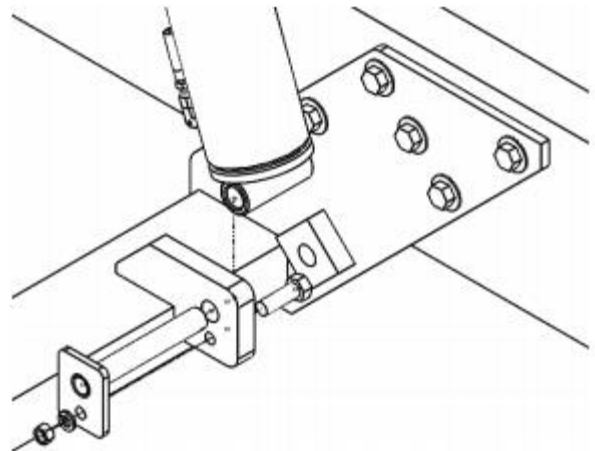

Figure 11
1. Align the lower Hydraulic Cylinder mounting hole with the corresponding holes on the Lower Cylinder Mount as shown in Figure 11.
2. Insert one (1) 1" Cylinder Pin into the cylinder hinge plate through the Hydraulic Cylinder lower mounting hole as shown in Figure 11.
3. From the inside of the hinge plate, insert one (1) 3/8" Hex Bolt through the hinge plate and the lower hole on the Cylinder Pin.
4. Attach one (1) 3/8" Lock Washer and one (1) 3/8" Hex Nut to the protruding end of the Hex Bolt and fasten with appropriate wrench until secure as shown in Figure 11.
5. Repeat these steps for the remaining five (5) Hydraulic Cylinders.